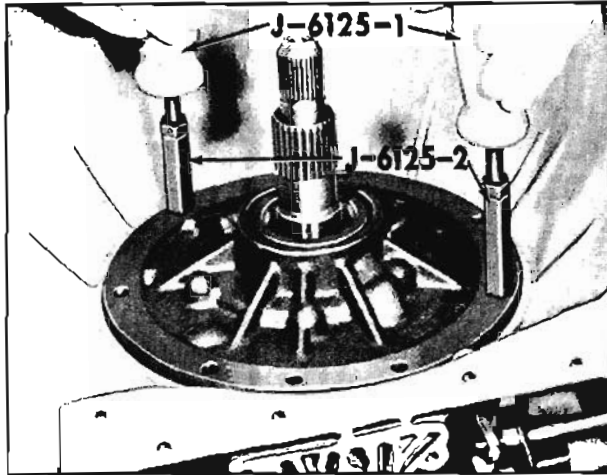

Fig. 6-273 Removing Oil Pump
1. With transmission in vertical position, remove eight pump attaching bolts with "O" ring seals, then install Slide Hammers J-6125-1 with Adapters J-6125-2 into threaded holes in pump. Using slide hammer, loosen pump from case. Remove pump and gasket from case. (Fig. 6-273)